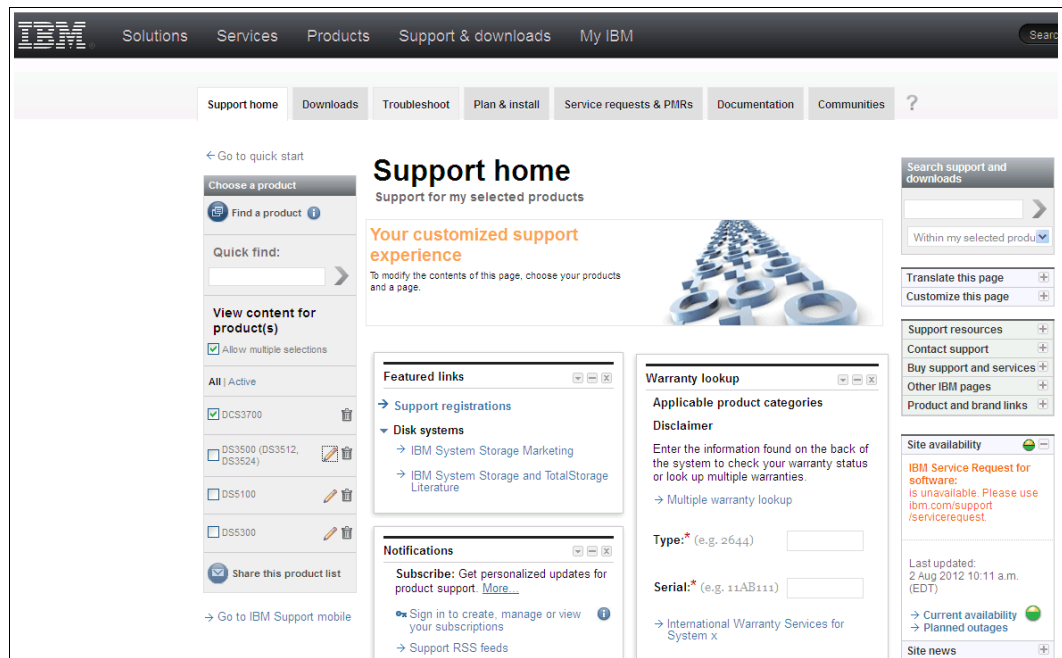

Figure A-4 IBM Support home portal - DCS3700
- Select the **DCS3700** check box. The view refreshes automatically. A support website similar to the one shown in Figure A-4 opens.